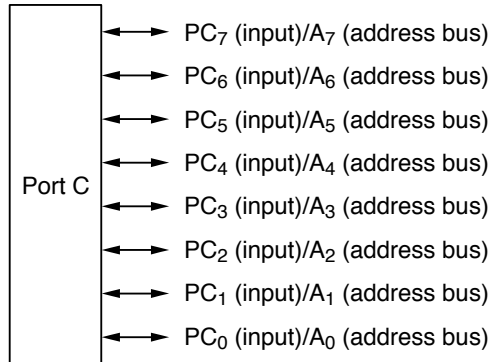

Figure 9-80 Pin Functions in Modes 2 and 4
(2) Pin Functions in Modes 2 and 4: Port C can be used for address output (A₇ to A₀) or general-purpose input. A pin is used for address output if the corresponding PCDDR bit is set to 1, and for general-purpose input if this bit is cleared to 0. Figure 9-80 shows the pin functions in modes 2 and 4.